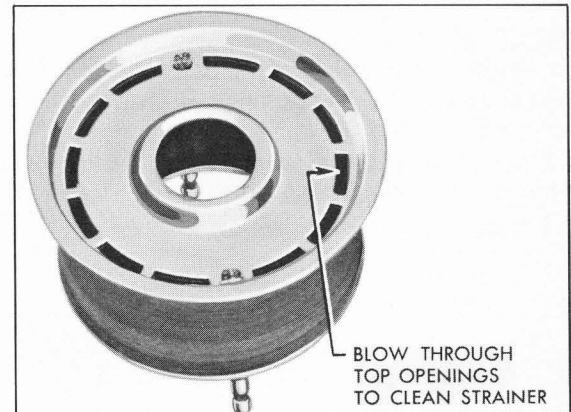

Figure 3-12—AC Paper-Edge Gasoline Filter Strainer
2. Gently blow through openings in top of strainer to force dirt out from between paper laminations. See figure 3-12. Do not blow against outside of strainer.